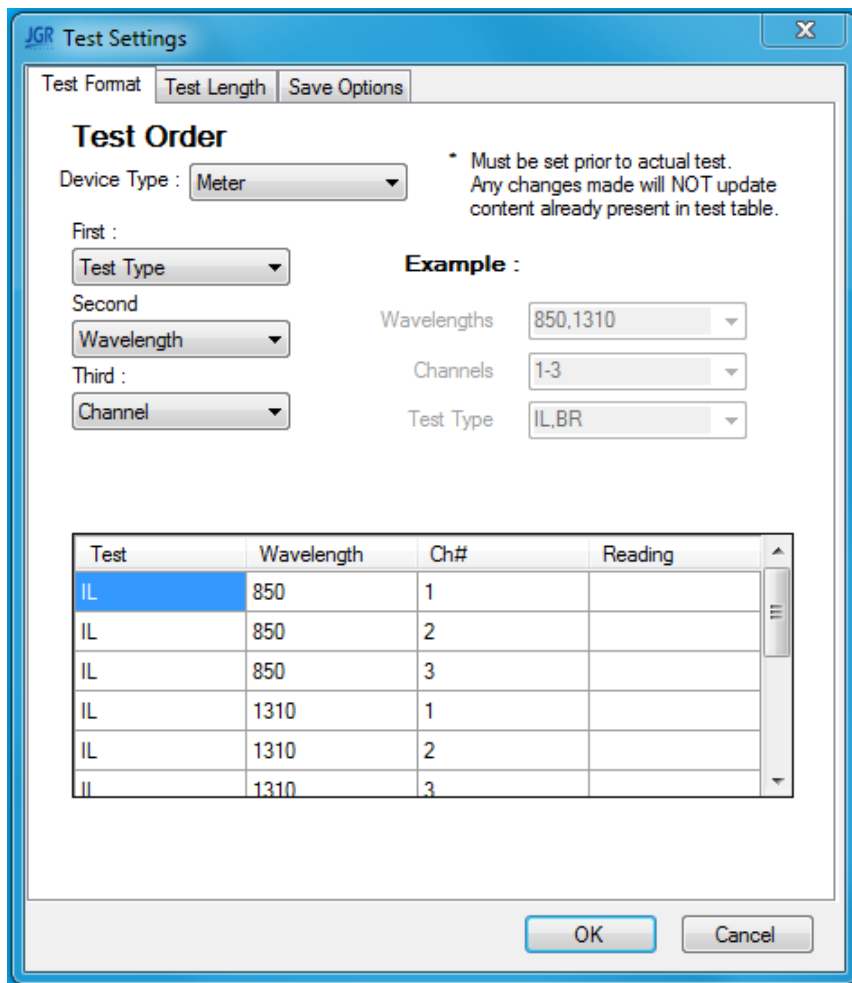

Figure 4.3: The test order for a meter device. An example of the column order is shown at the bottom.
- Under Test Format choose the type of device being tested (meter or a switch) from the drop-down list (see Fig. 4.3).